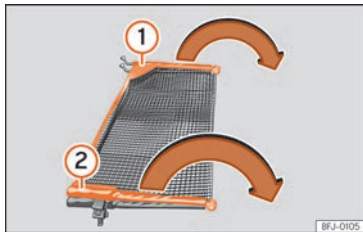

Fig. 151 Deploying the net partition.
Extend the cross rods »» **Fig. 151** ① and ② of the net in the direction of the arrows until it "clicks".